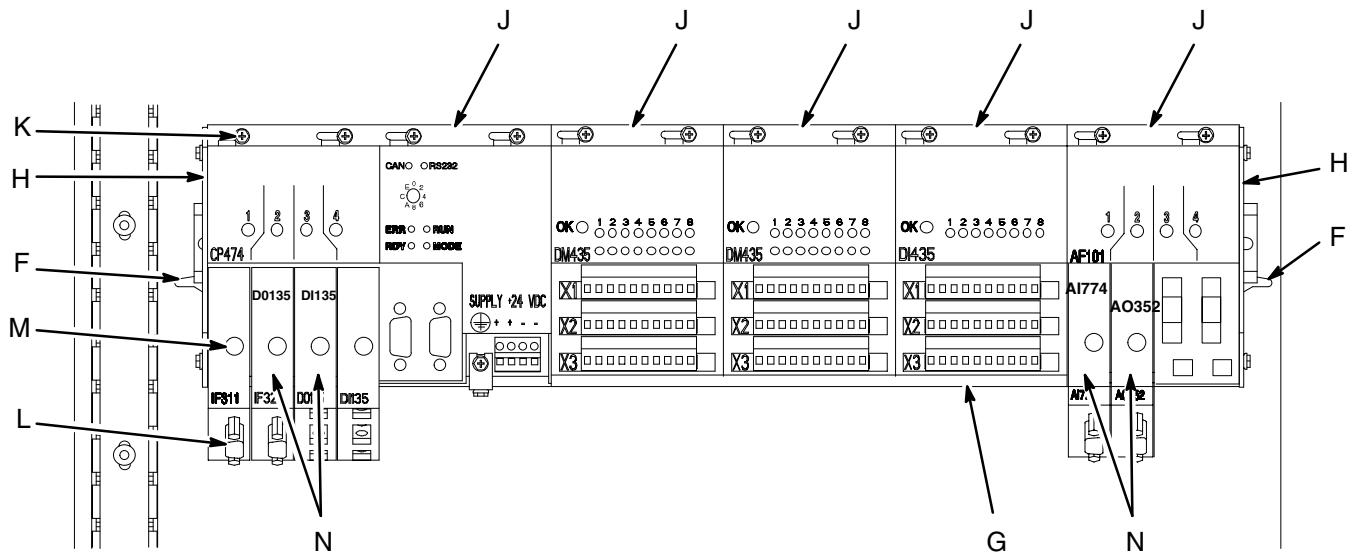

Fig. 11.9
4. Unlatch (F) the control modules mounting plate (G). See Fig. 11.9.
5. Tip the mounting plate down to unscrew the end plate (H) that is nearest the module being replaced.
7. Remove the screws (K) from the modules (J) between the removed end plate and the module being replaced.
10. Install the end plate (H) to tighten the modules together. Then secure the modules with the screws (K).
4. Unplug the cable from the submodule connector (L). See Fig. 11.9.
5. Remove the screw (M), then remove the submodule (L).
7. Plug the cable into the connector (L).